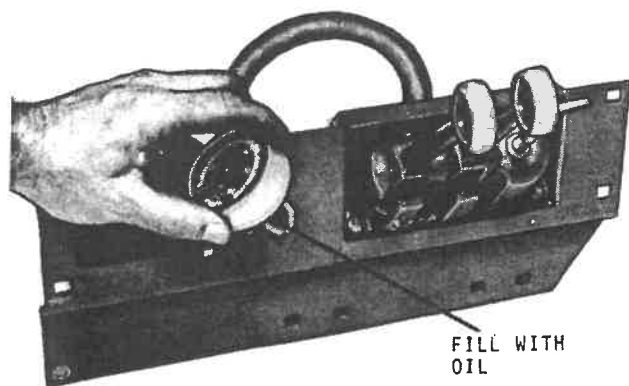

Fig. 40 — Gauge Protector
On sprayer models that have a gauge protector, remove the pressure gauge and fill the gauge protector or fitting with SAE 20 oil (Fig. 40). Install the pressure gauge and make sure it reads zero (0) after installation. If the gauge does not read zero (0), remove some of the oil from the gauge cavity and recheck.